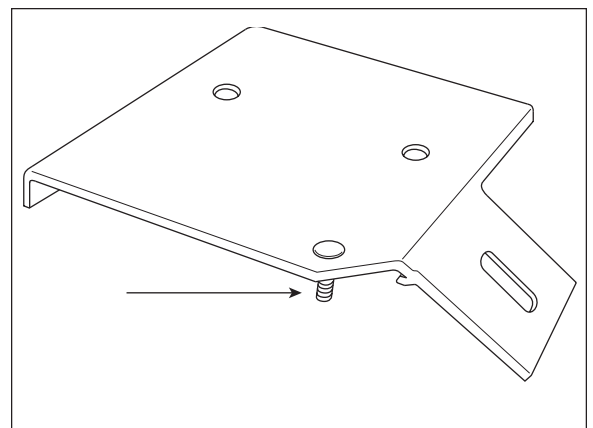

Figure 7
**DRIVERS SIDE ONLY** - Insert 5/16 clinch bolt (K) into the small hole of the lower bracket before attaching the lower bracket to the air spring. Supporting the lower bracket will ease installation of the clinch bolt. Use a hammer to drive the bolt into the hole in the lower bracket (Fig. 7).
*Note:* Be sure to install the assembly with the clinch bolt on the driver side. Refer to diagram (Fig. 7) on page 4.